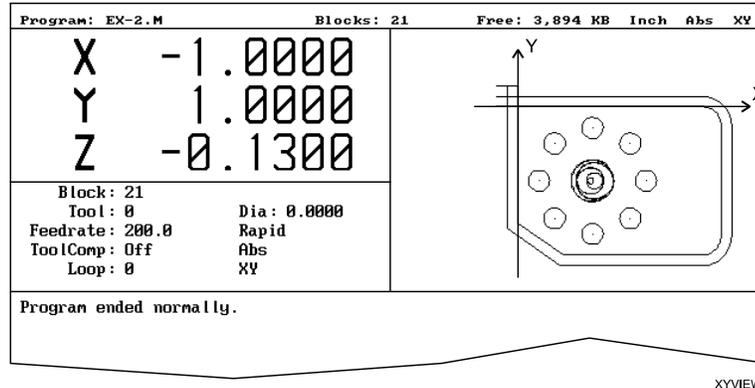

Figure 3-7, Draw Mode XY View (Top)
View the program in Isometric view (3D), then in the XY (top) view for the best results (refer to **Figure 3-7**). Look at it from the front (XZ) or end (YZ) views to examine the depths of the cuts. If you detect any errors, return to the Edit Mode and correct the program as necessary. Re-run the program in Draw to verify any corrections before you run the program.